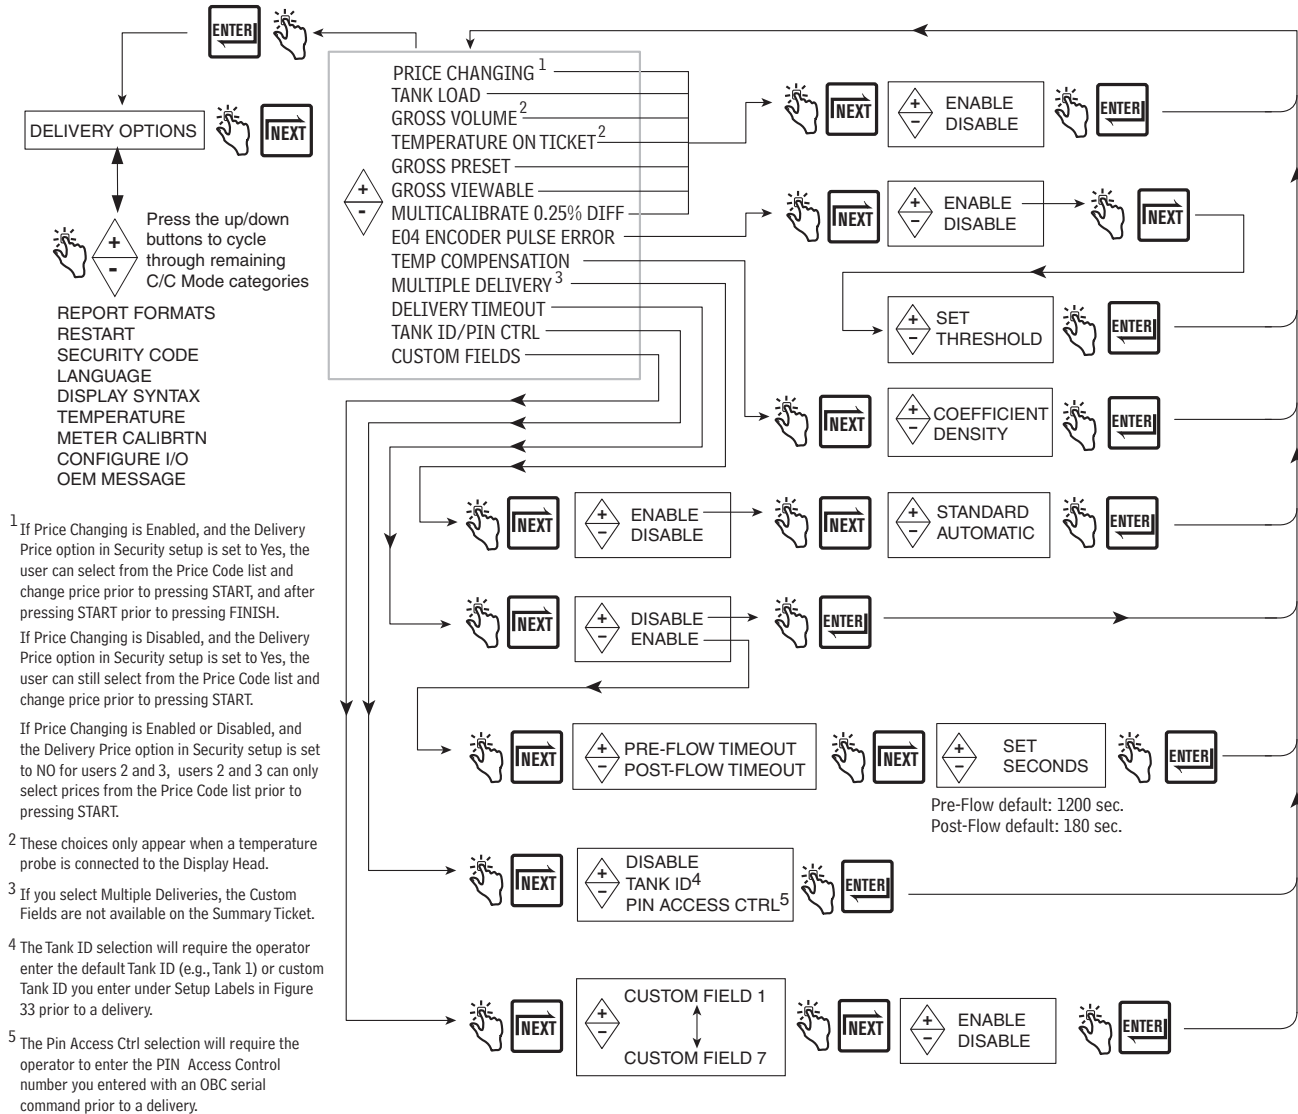

Figure 49. Delivery Options
3. In order to change the density for a given product, the EMR³ has to be set to the density mode and temperature compensation must be enabled as described in Figure 49, Delivery Options.
Figure 49 illustrates Delivery Options setup in C&C Mode. This option lets you enable or disable price changing within the Delivery State as per your regulatory requirements. In this setup you also select coefficient (of expansion) or density as the temperature compensation method for deliveries, enable delivery timeout, enable Tank ID, enable Custom fields, enable Tank Load and enable E04 encoder error (Gross volume and Temperature on Ticket fields also visible when temperature probe connected to EMR Head). Also you can enable / disable Gross Preset, Gross Viewable, Multicalibrate 0.25% Diff and Multiple Delivery.
- A second idle state occurs when flow is halted during a delivery. The user has 180 seconds (default) to either push the FINISH button to complete the delivery, or the START button to resume the delivery. If neither button is pushed within 180 seconds the delivery is terminated. This 180 second timeout can be enabled or disabled by the Delivery Timeout feature (see Figure 49).